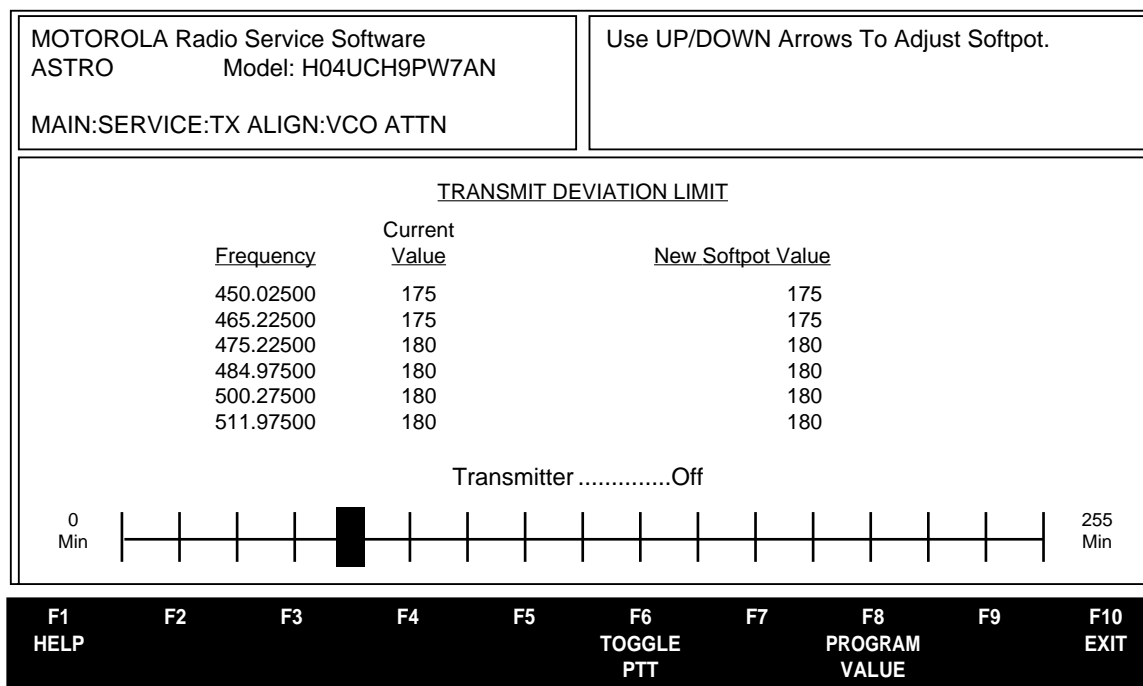

Figure 7. Transmit Deviation Limit Alignment Screen
2. Press **F5** to select the TRANSMIT DEVIATION LIMIT alignment screen. The screen will indicate the transmit frequencies to be used. See Figure 7.